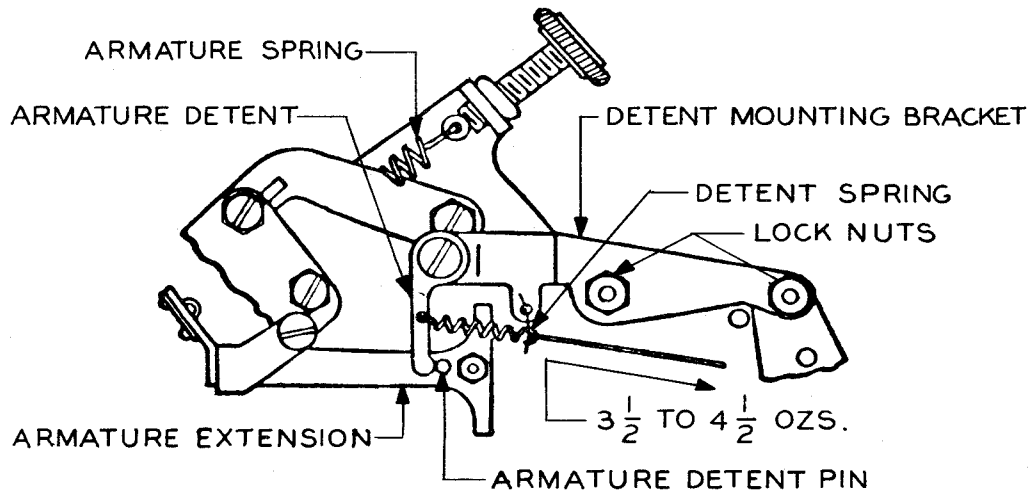

Figure 19
2.24 Armature-detent Mounting Bracket (pulling magnet) (for 20-type machines equipped with the armature detent): The armature detent should be central with respect to the detent pin on the selector-armature extension (when the armature extension is at its mid-position). This may be checked as follows (see Figure 19).
2.25 Armature-detent Spring (pulling magnet) (for 20-type machines equipped with the armature detent): With the pull end of the scale hooked in the spring eye, it should require minimum 3-1/2 ounces, maximum 4-1/2 ounces, as indicated in Figure 19, to pull the detent spring to position length.